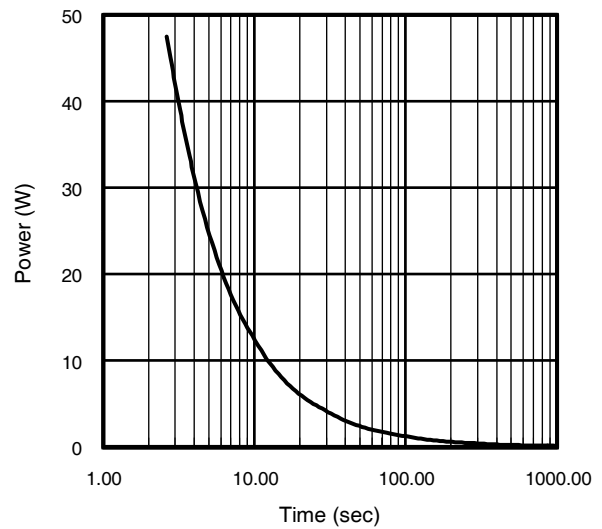

Fig 15. Typical Power Vs. Time
**Notes on Repetitive Avalanche Curves , Figures 15, 16:
7. ΔT = Allowable rise in junction temperature, not to exceed T_{jmax} (assumed as 25°C in Figure 15, 16).